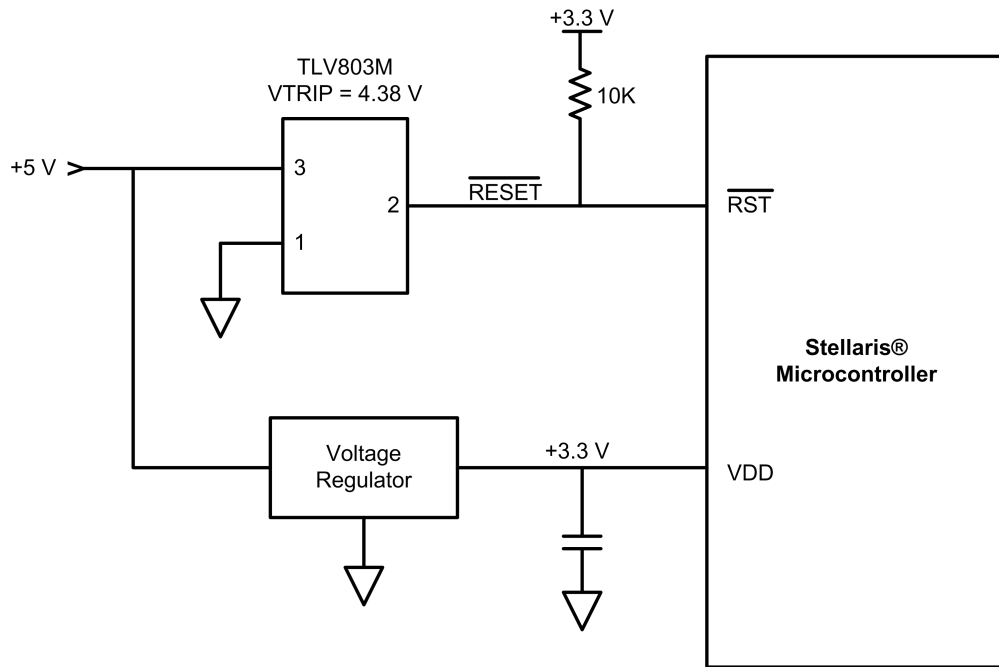
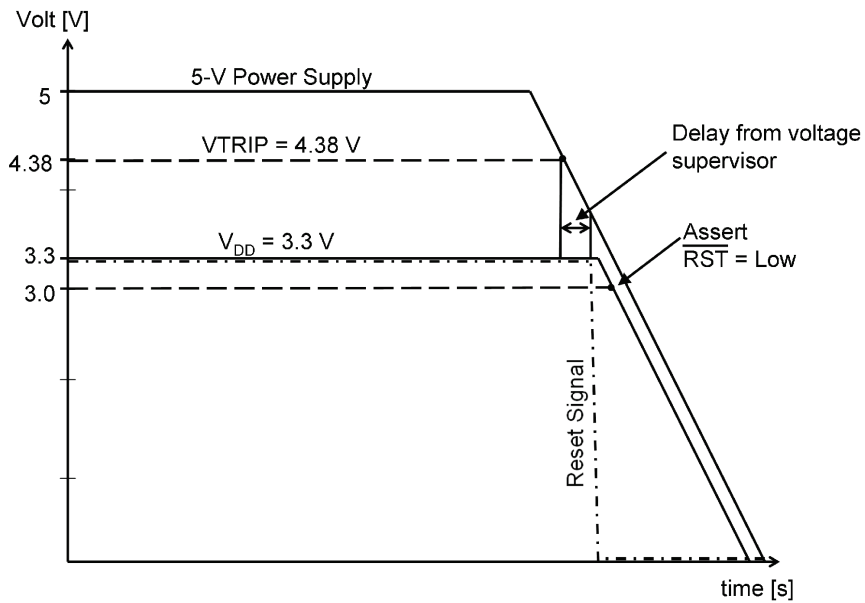

Figure 4. Using a Voltage Supervisor to Monitor the Voltage Rail
Figure 5. Resulting Waveform Using the Voltage Supervisor Circuit
Depending on the system environment requirement, items 3, 4, and 5 in the above list may be met by using a voltage supervisor, such as the TLV803M, to monitor a higher voltage rail from which the VDD supply is regulated. Figure 4 shows this implementation with a voltage supervisor monitoring the 5-V rail and a voltage trip point of 4.38 V. A voltage supervisor with a lower voltage trip point can be used to monitor the VDD (3.3-V) rail, however this supervisor must assert reset before VDD reaches 3.0 V. Regardless of the implemented voltage supervisor circuit, the system designer must ensure that there is enough time to assert RST Low prior to VDD falling below 3.0 V. Figure 5 shows the resulting waveform of the circuit shown in Figure 4.